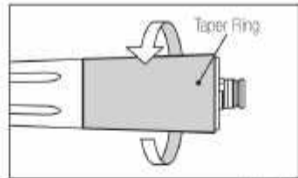

Fig. 14 15
- 1) Loosen and Remove the taper ring at the rear of the handpiece. (Fig 14)